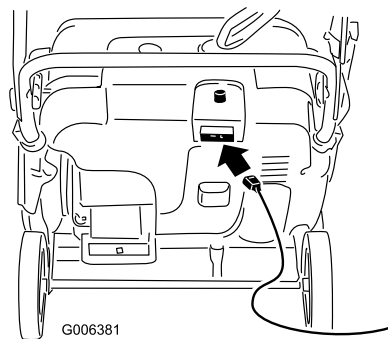
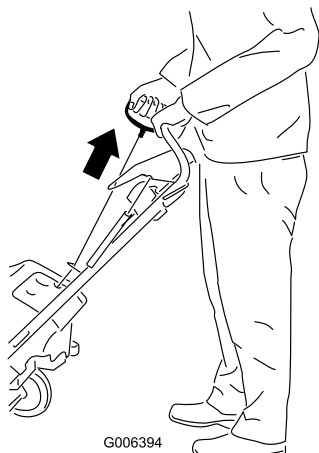

Figure 14
Figure 15
4. Connect an extension cord to a power source and the snowthrower, and push the electric-start button (model 38577 only) (Figure 14), or pull the recoil start handle (Figure 15).